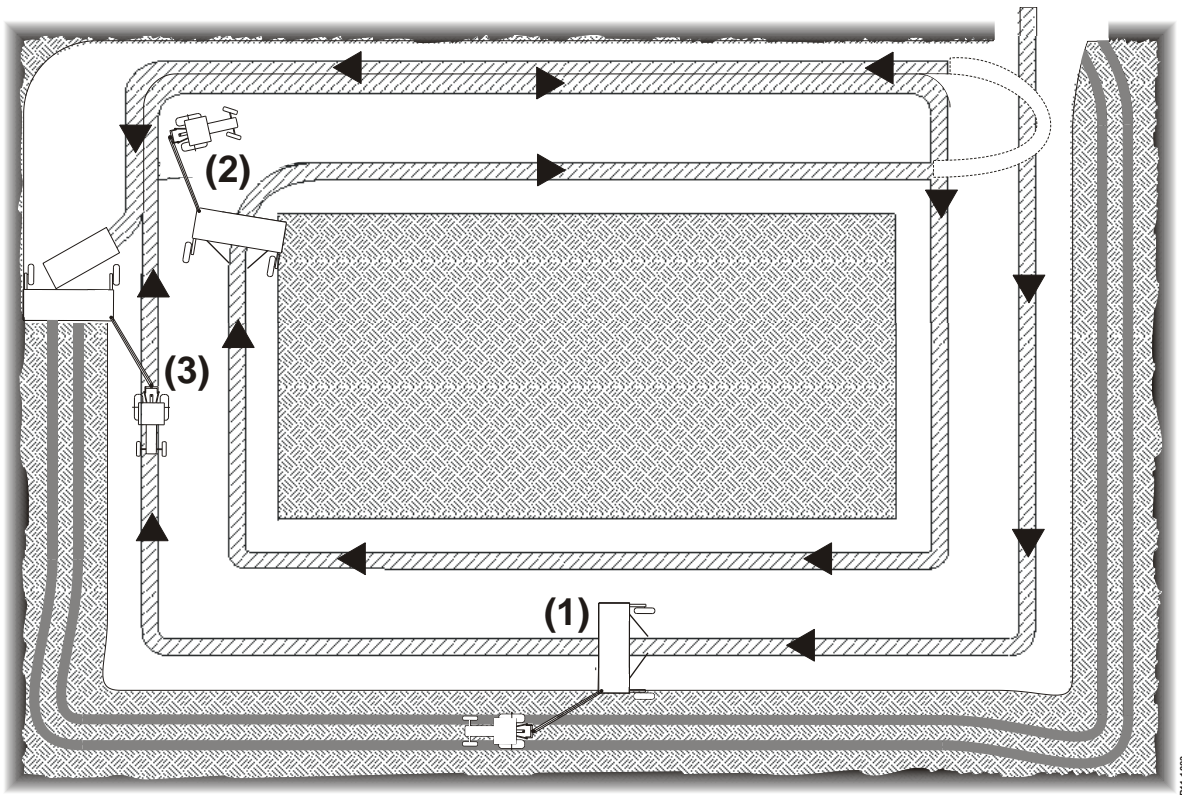

Fig. 3-1
Fig. 3-1 Lift the Collector to place a normal swath. Drive one round approximately one working width from the edge (1). Drive the second round in the same direction as the first swath (2). Lower the Collector and drive one round along the edge (3). Now there is space to turn at the ends of the field and the field is ready to be harvested in one piece or divided into sections as required. If you want 2 double swaths drive an extra round with the Collector down after the second round.